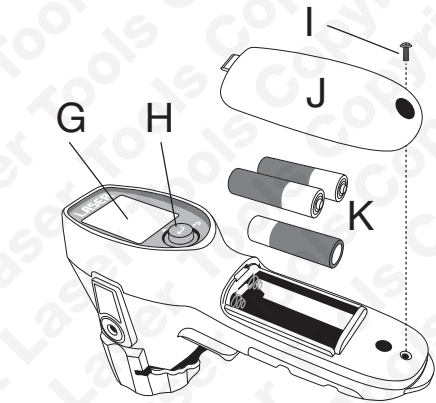

Fig. 3
- Install the batteries (refer to Fig. 3). Three AA 1.5V batteries are supplied.